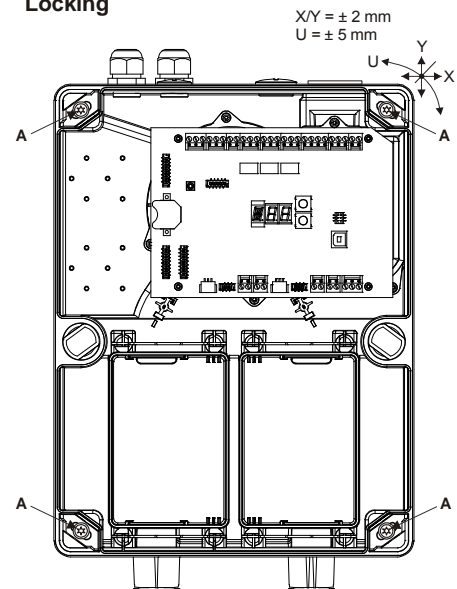

Fig. 3 Opening, closing and locking the detector housing
- To use the rotary snap locks, press firmly with the screwdriver toward the housing base and then turn 90°. The position of the lock slit shows the current state (see **Fig. 3**):